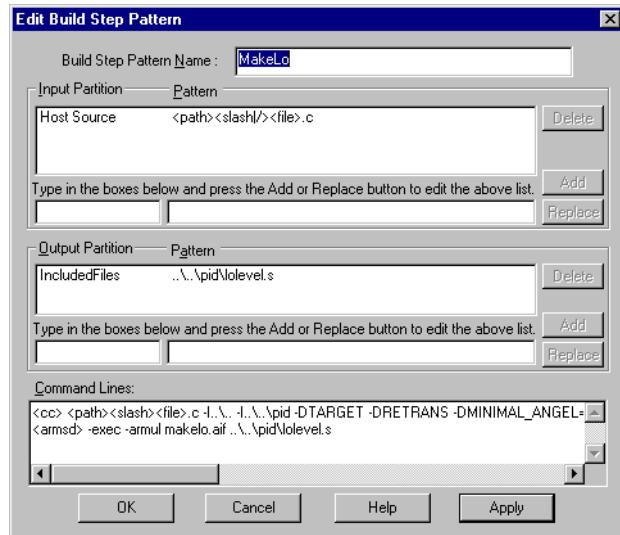

Figure 13-9 Edit makelo.c build step
7. Select **MakeLo** from the list of build step patterns and click on the **Edit...** button. The Edit Build Step Pattern dialog is displayed (Figure 13-9 on page 13-54).